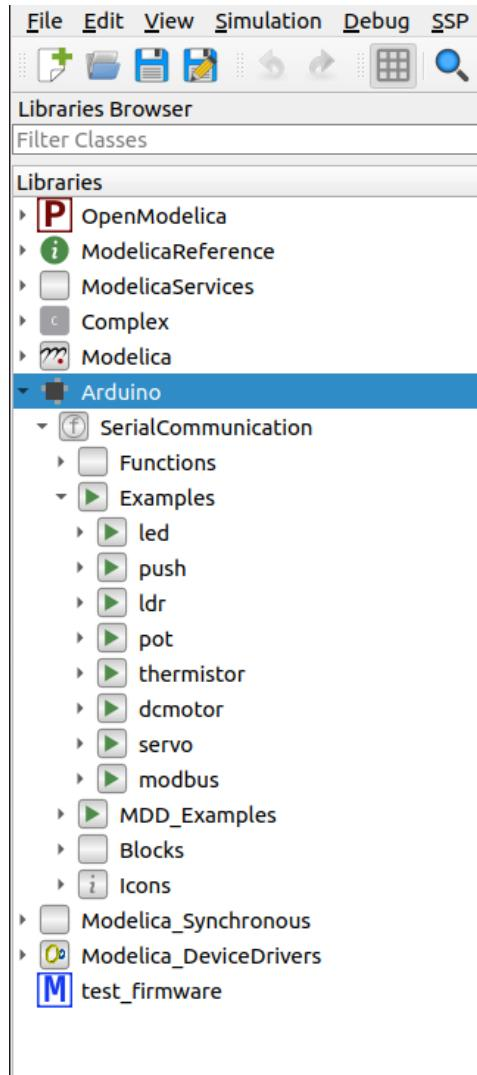

Figure 3.44: Examples provided in OpenModelica-Arduino Toolbox
5. Now, we will locate the models for running the experiments in the upcoming chapters. Under Libraries Browser, click on the arrow before Arduino to see the contents inside this package. Next go to SerialCommunication -> Examples. Under Examples, you will find the list of experiments like led, push, etc., as shown in Fig. 3.44.